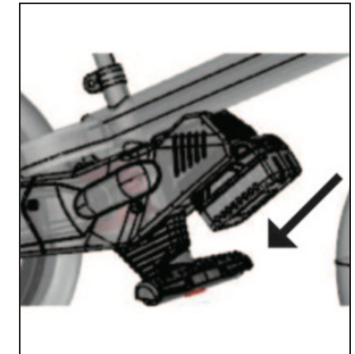

FIGURE 2
1. Locate battery and orient as shown. [Figure 2].